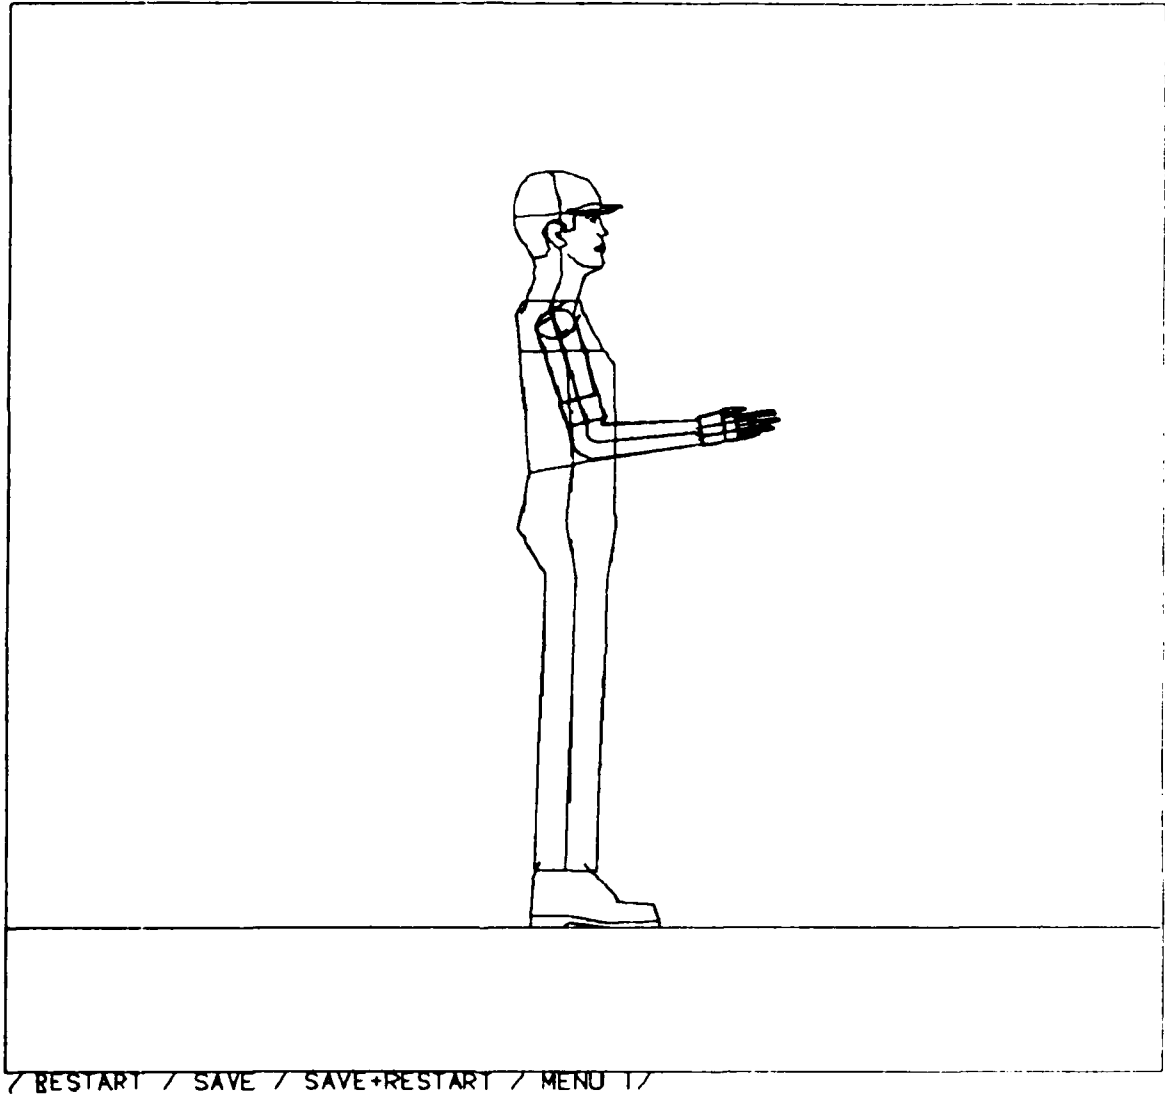

Figure 2.5. 3-D Wire-Frame Man-Model.
(1) WIRE	This selection generates the man-model as a 3-D wire-frame figure which can be rotated and moved using the appropriate CADAM Window (PFK 27) functions. The man-model and drawing may be viewed from different points in the drawing. This type of enfleshment can be used for visually identifying potential areas of interference between the man-model and the workplace design. (See Figure 2.5.)